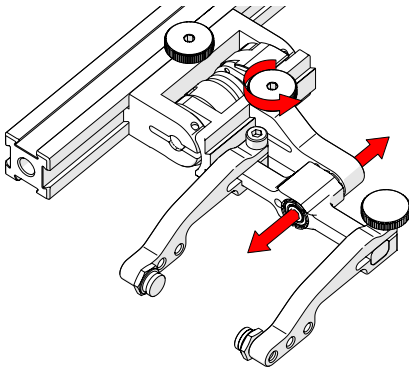

Fig. 132 - Adjust swing arm
3. Use swing arm knob to position the swing arm (Fig. 132).